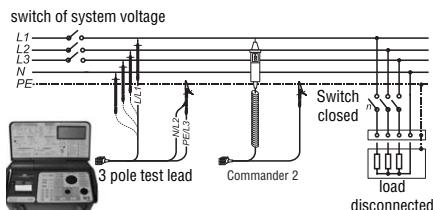

Figure 6.1 Connection of test leads
- ▶ Switch on UNITEST EURO EXPERT plus via switch "ON/OFF" (9).
- ▶ Set the measurement range needed by using the function switch (8). RINS (7,8,9), choose the test voltage 250/500/1000V.
- ▶ Connect the test lead to the measurement connector (17) of the EURO-EXPERT plus.
- ▶ Connect the test cables to the test object, refer to figure 6.1